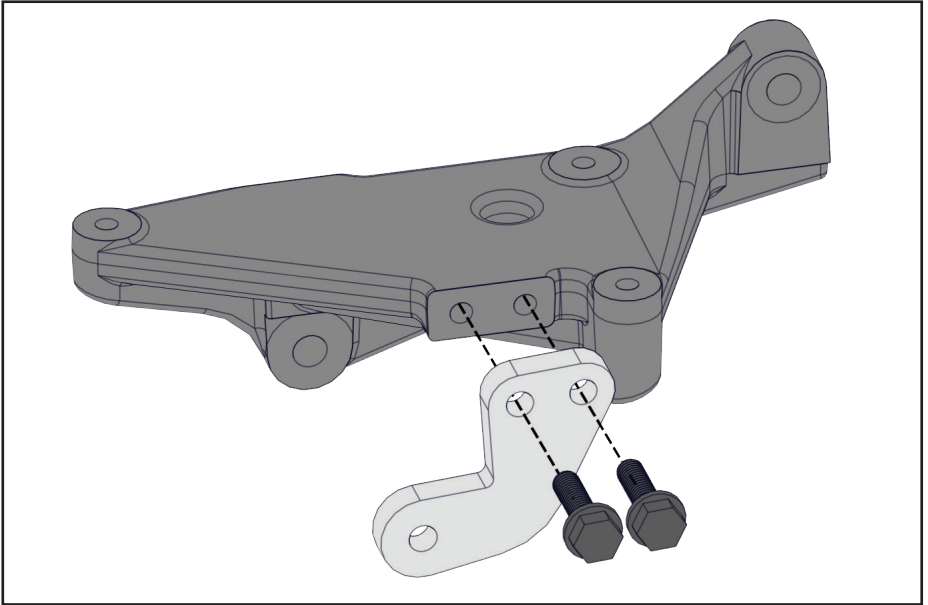

Figure 14 — Installing the rear bracket
- Install the smaller rear bracket onto the main bracket using the (x2) M8 × 1.25 × 30 mm fasteners (Figure 14).